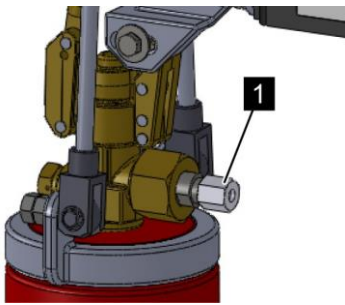

Fig. 143: Disconnect the pilot line
4. ➔ Remove the pilot line from the connection (Fig. 143/1) on the valve.